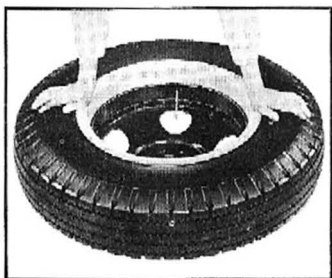

Fig. 90—Checking Side Ring
11. While side ring is being applied to wheel rim, it is tight and requires force or hammer blows to complete application. When side ring is completely installed on rim, it is no longer tight and can be depressed or will yield to a hammer blow. Precaution should be taken to see that side ring is not binding on rim and can be freely depressed (fig. 90) before inflating tire.